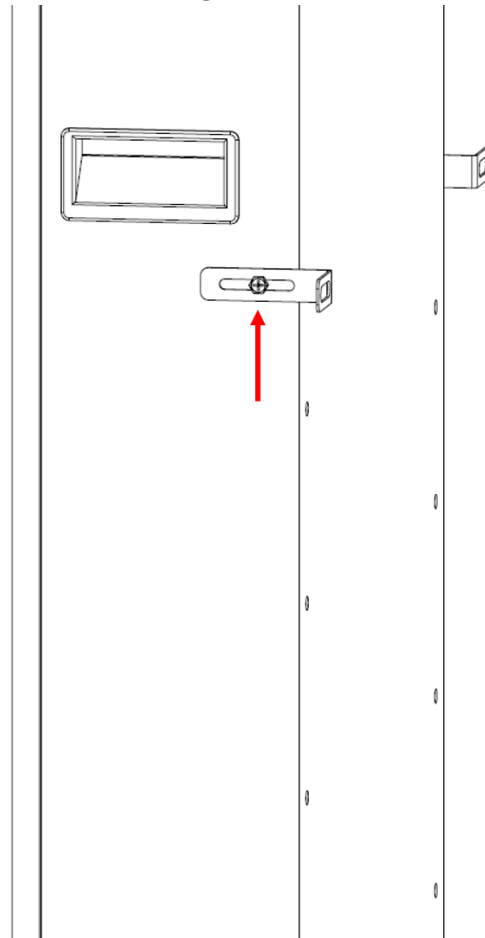

Figure 5-6
d) Adjust the left and right screws to the appropriate position to ensure that the battery is perpendicular to the ground, as shown in Figure 5-6.